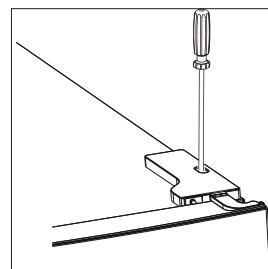
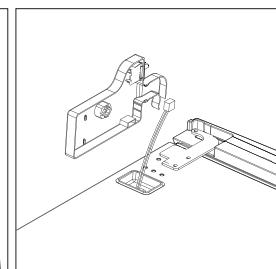

Fig. 1
Fig. 2
- ▶ Use a Phillips screwdriver to unscrew the retaining screw on the hinge cover (1) (Fig. 1) and gently remove the cover (Fig. 2).
- ▶ Then press the release on the cable connector and simultaneously pull it out of the socket on the hinge cover (1).
- ▶ Remove the hinge cover (1) completely.